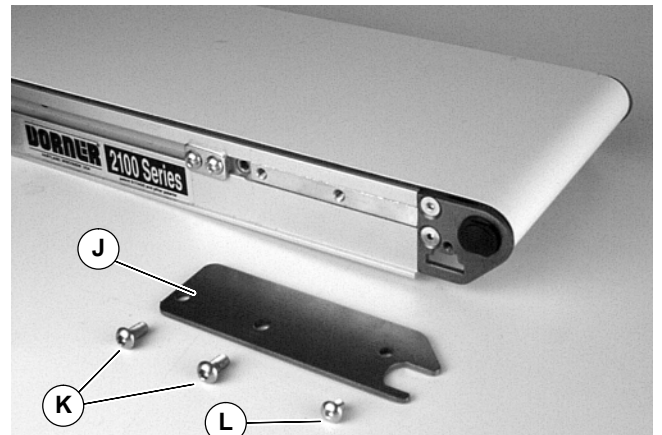
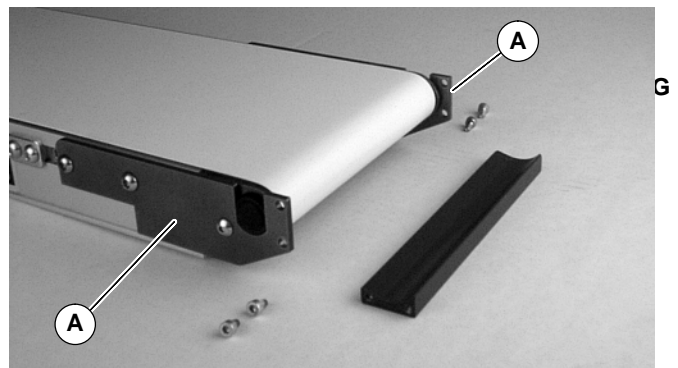

Figure 3
Figure 4
4. Remove screws (K & L of Figure 3). Remove and discard existing cover plates (J).
5. Install transfer cover plates (A of Figure 4) using original screws (K & L of Figure 3).
- Tighten screws (K) to 71 in-lb (8 Nm)
- Tighten screws (L) to 28 in-lb (3 Nm)